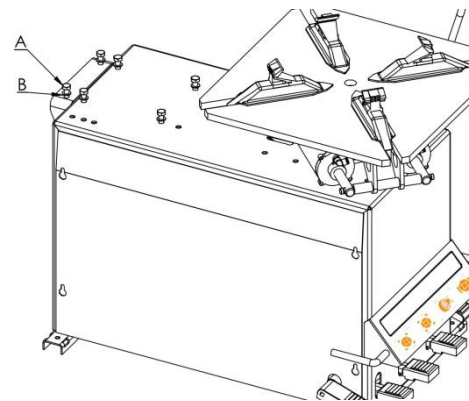

Fig. 4
- First remove the bolts (A, fig.4) and washers (B, fig.4).